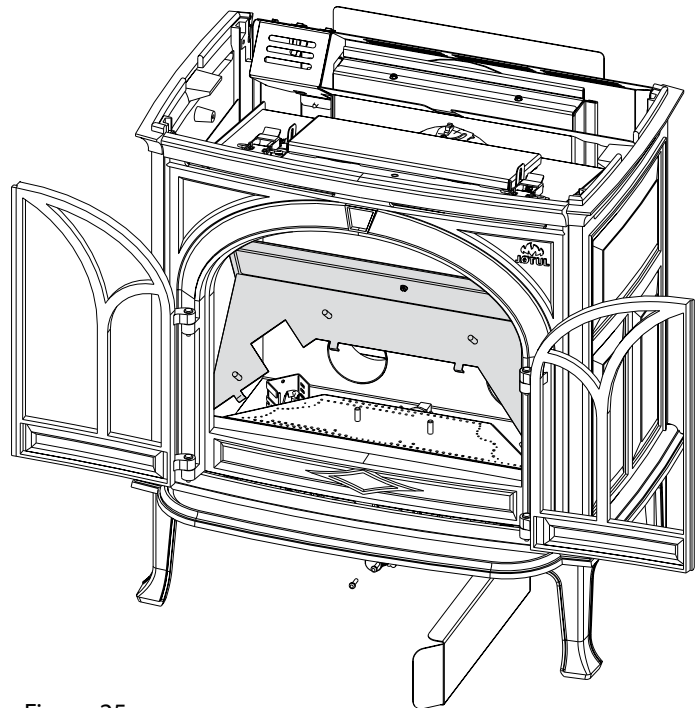

Figure 25.
5. Lift out the Burner Skirt. See fig. 25.